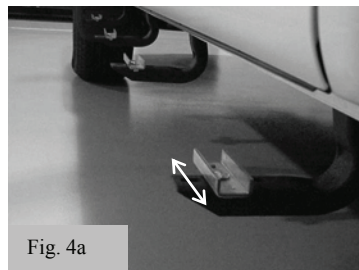
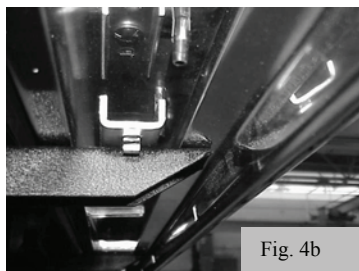

Fig. 4a
Fig. 4b
- ⚠ (a) Lift and rotate the Pinch Clips 90 degrees so that they are perpendicular to the Brackets. (Figure 4a)
- (1) Left (Driver Side) Board is marked with an **Orange** sticker.
- (c) Carefully lower the board so that the Pinch Clips rest in the channel in the bottom of the Stealth Board. (Fig 4b)